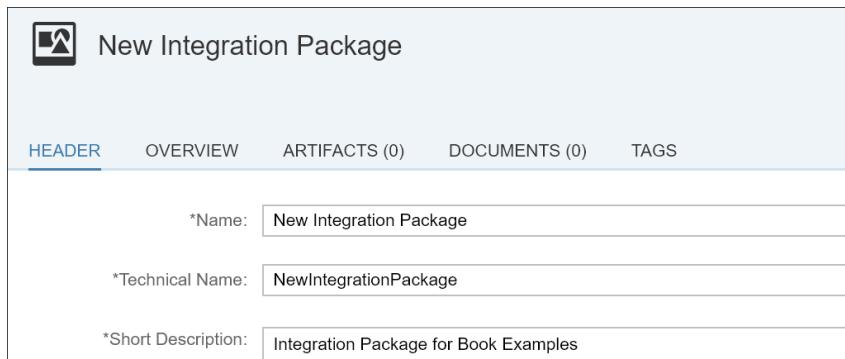

Figure 2.18 Specifying a Name for the New Integration Package
4. In the next dialog box (shown in Figure 2.18), provide a name for the integration package and a short description.